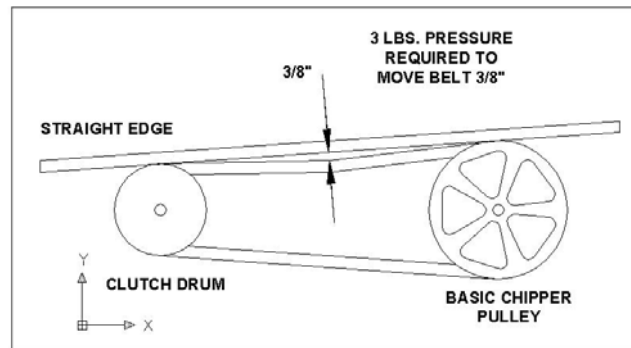

Figure 1
5. Care must be exercised when sharpening the knife to maintain the correct bevel and a straight edge. Refer to sharpening directions. When you install a knife, use the supplied knife gauge to be sure the clearance between the knife and wear plate is set to 1/16" (see figure 1).
The belt on your chipper should deflect $3/8$ " under three pounds of pressure as shown in figure 1 below. If it doesn't, adjust per the following directions.
- Tighten or loosen the nut on the belt tensioner until you have the correct tension as shown in figure 1.